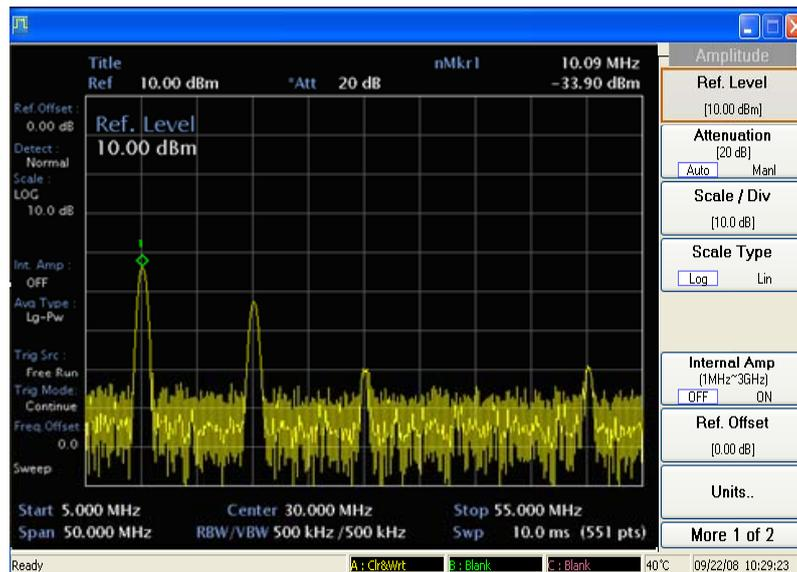

Fig. A-1 Placing a marker on the 10 MHz signal
- 4 Press [PEAK] to place a marker at the highest peak on the display (the *[Next Pk Right]* and *[Next Pk Left]* soft keys move the marker from peak to peak). The marker should be on the 10 MHz reference signal, as shown in Fig. A-1.